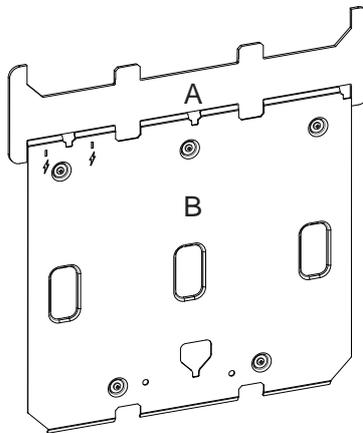

Figure A-6: Position the Mounting Bracket Spacer above or below the detector mounting bracket
1. Position the mounting bracket spacer (A) immediately above or below the detector mounting bracket (B), which has been previously secured to the mounting surface (Figure A-6). If required, remove the detector first.